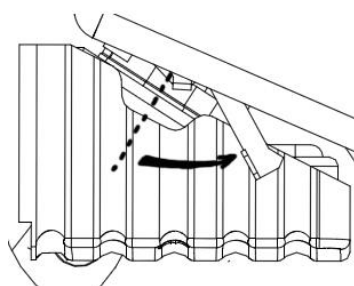

Fig 4-11
3.1.2 Close the choke lever.. ( Fig 4-11 )